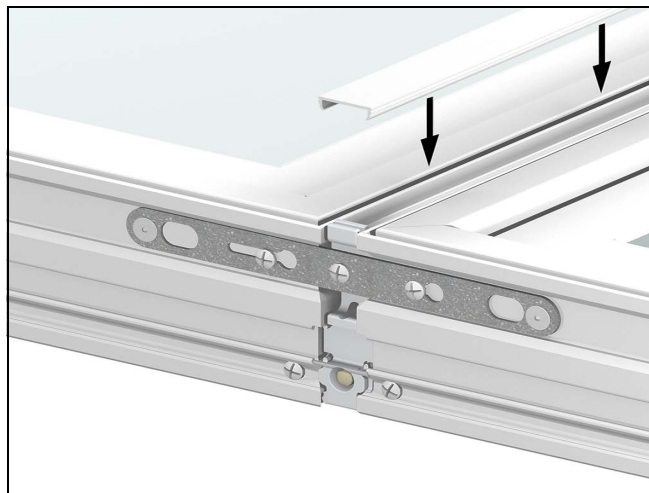

Figure 12
8. Install the exterior mull cover. These should be flush with the interior edge of the accessory kerf to allow for J-channel application. You may have to seat the cover with a rubber mallet or wood block and hammer. Flip the assembly over and install the interior mull cover in the same manner. See Figure 12.